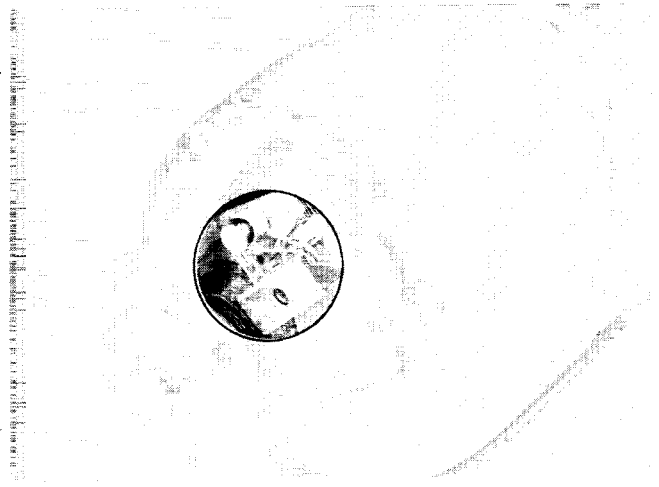

Figure 2.41
2.41 SECURE SPRING/REPLACE MOTOR OR TRIMMER (fig. 2.41)